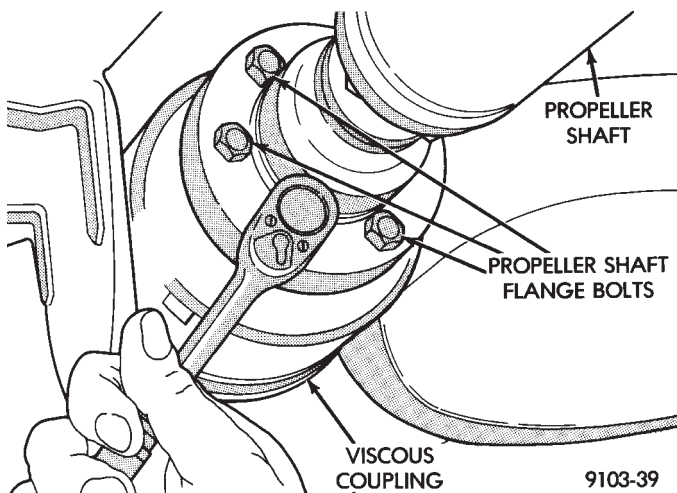

Fig. 1 Propeller Shaft Mounting Bolts (Rear)
- (2) Remove propeller shaft rear mounting bolts and support end of propeller shaft (Fig. 1).